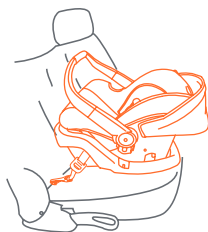

Fig. 51-1
1. **Safety Seat with Base:** Make sure the vehicle is parked on level ground. Lock the Safety Seat onto the Base and check that the Safety Seat is level side to side on the vehicle seat (Fig. 51-1).